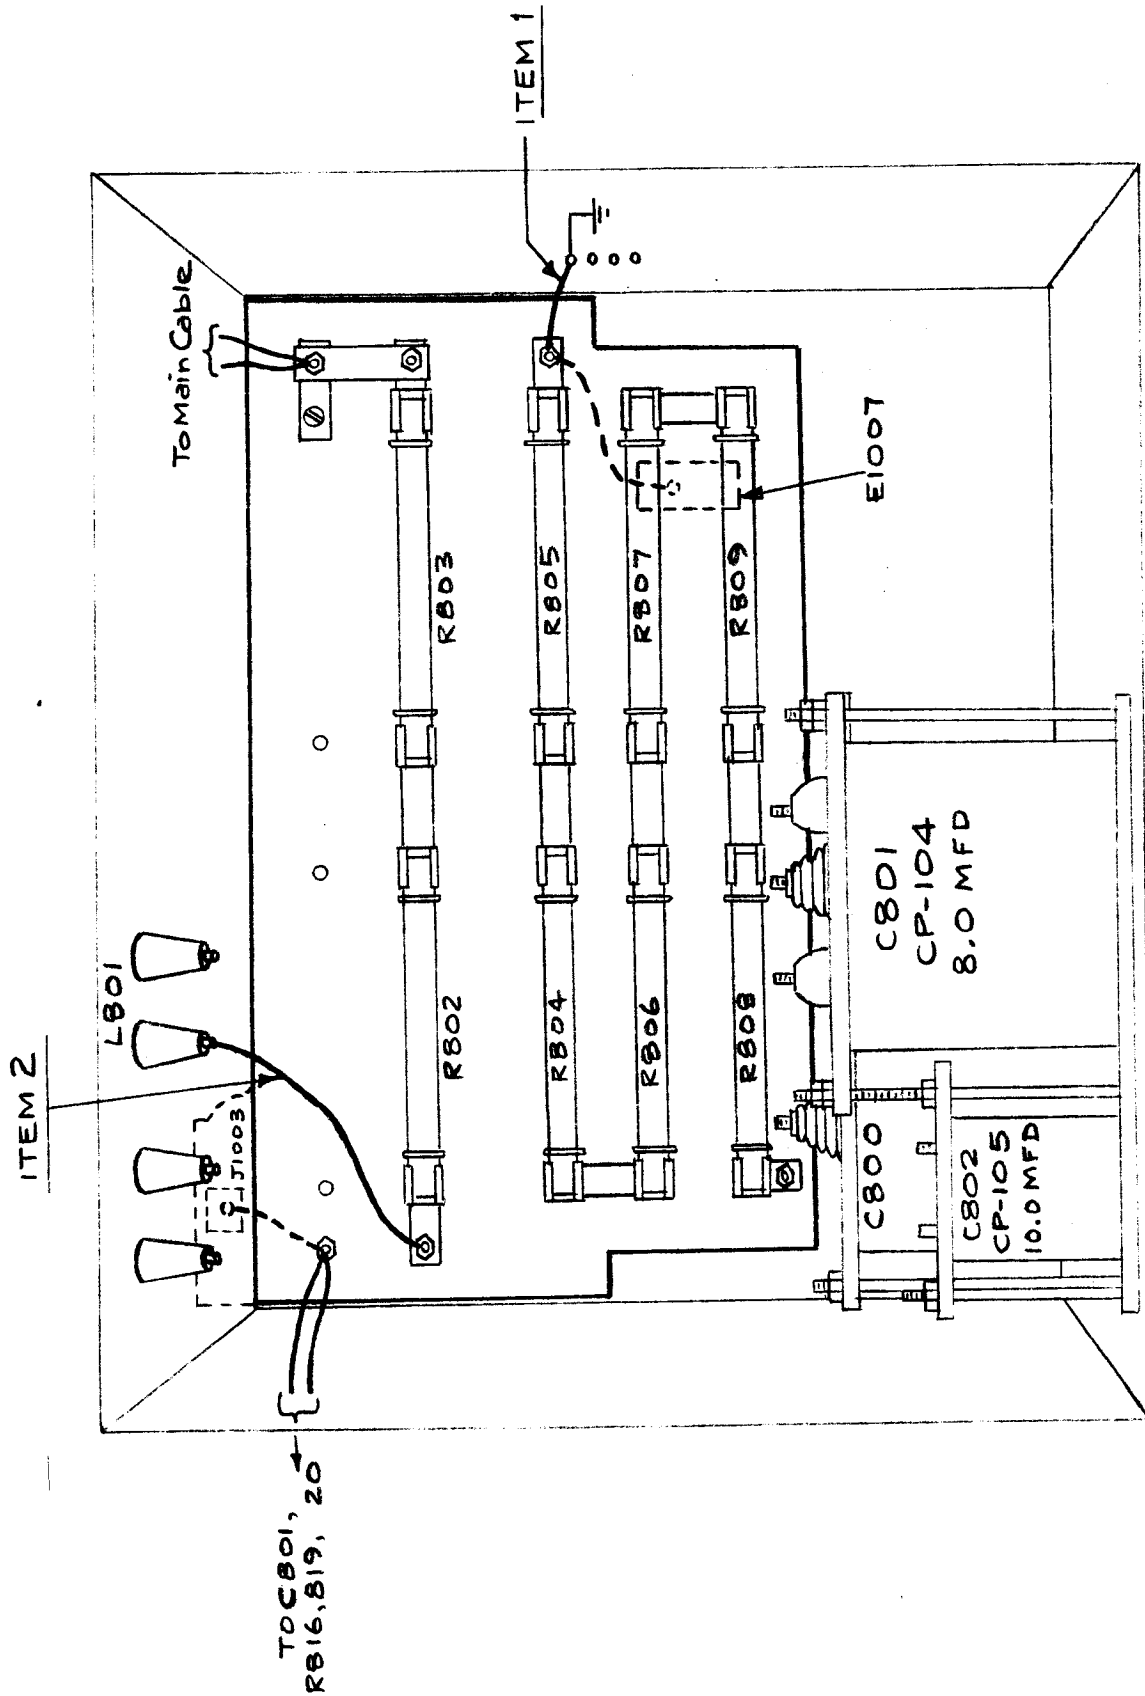

FIGURE 2
(See Figure 2)
13. Check Board Assembly against Figure 2 to see if it conforms.